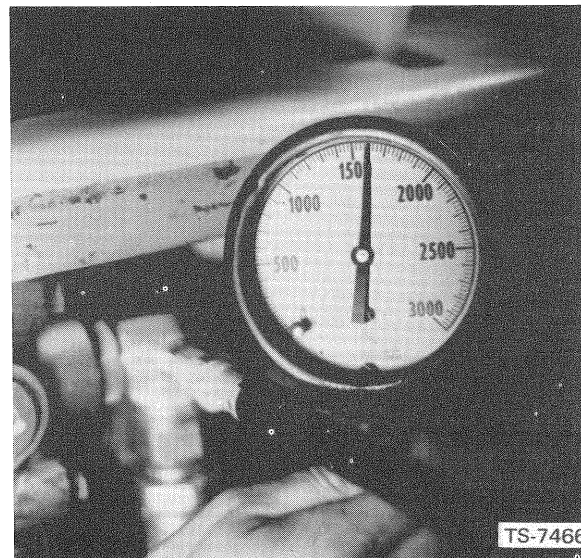

Fig. 10-7 Main Relief Valve Pressure Check
3. Attach a hydraulic gauge of at least 3,000 p.s.i. capacity to the hose fitting on the main control valve. Fig. 10-7